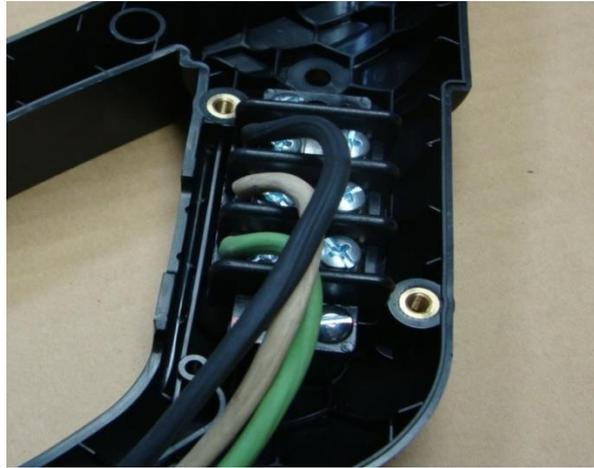

Fig.6-19 Terminal Block Wiring
9. Strip green, white, and black wires 3/8" and twist wires strands then install (**Note:** white black wire is routed under switch see Fig.6-18 Wire Routing) on open terminals of terminal block. Make sure to install completely under the clamp before tightening screws. Torque screws to 16 in-lbs. Bend all (3) wires over the top of terminal block (see Fig.6-19 Terminal Block Wiring).
11. Use blue Loctite[®] on all external handle screws before installation. Install (7) #10-32 x 1" socket head screws hand tight, then install (2) 1/4-20 x 1/2" socket head screws hand tight. Now torque all #10-32 screws to 12 in-lbs. and all 1/4-20 screws to 25 in-lbs.